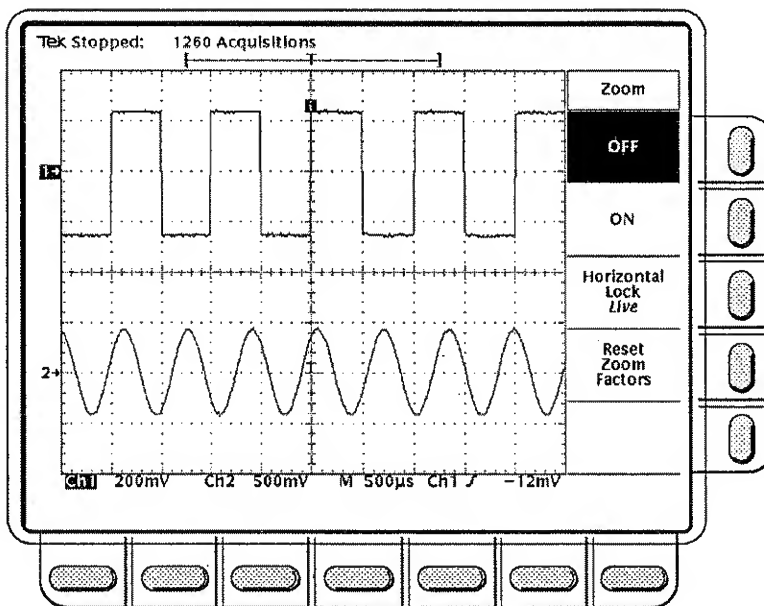

Figure 3-72: Zoom Menu
- ☐ **Step 1:** Press the **ZOOM** button. The Zoom side menu will appear (Figure 3-72).